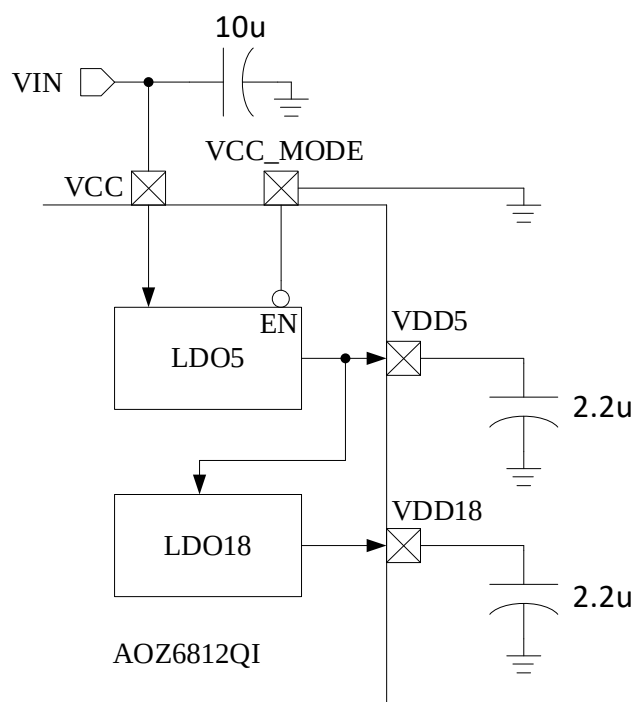

Figure 31-2 High-voltage Single-power Supply Mode
- High-voltage Single-power Supply Mode: VCC_MODE = 0 and VCC = 5 ~ 24V. See Figure 31-2 for details.